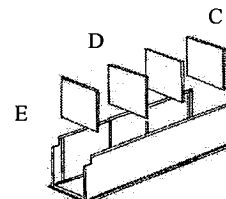
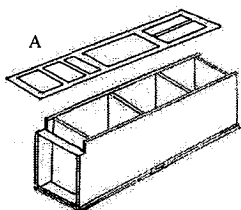
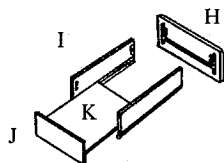

Figure 4.
Figure 5.
Figure 6.
4. Install the top (C), 2 Middle Shelves (D) and bottom (E): gently spread side panels and insert top (C), 2 Middle Shelves (D) and bottom (E) into the grooves of side panel (B). Push them until they touch the Back Panel (F) (Figure 4).
5. Install the toe kick (G): Align each cam lock on the toe kick and lock them.
6. Install the Face Frame (A): place the Face Frame (A) directly on the half assembled cabinet. Then open all doors in order to well align all grooves and cam locks and lock them (Figure 5).
7. Install the drawer slide rails: insert the drawer slide rails backend into the holder (N) that previously installed (step 2) on the back panel (F). Then secure the drawer rail front end with flat head screws (O) using the predrilled holes in the face frame. Repeat this step for each drawer slide rail.
8. Drawer assembly (Figure 6): place the drawer-face (H) face down on a flat soft working surface. Align the two drawer sides (I) and lock the cam lock. Slide drawer bottom (K) into the grooves of drawer sides (I). Then place drawer back (J) and lock the cam lock. Repeat this step for more drawers.